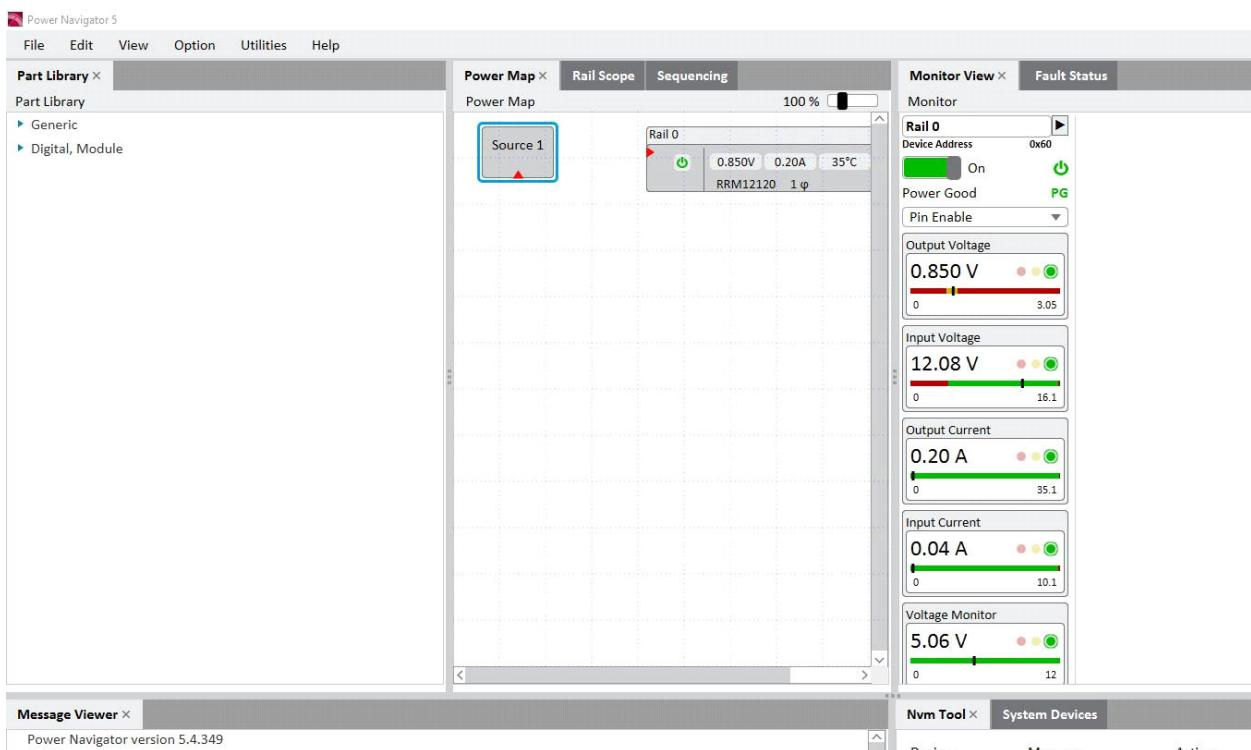

**Figure 2. PowerNavigator Start Page**
8. Launch the PowerNavigator software. The PowerNavigator software interface is shown in Figure 2. The module RRM12120 part number and I2C address (0X60) appears under Scan Attached Devices section.